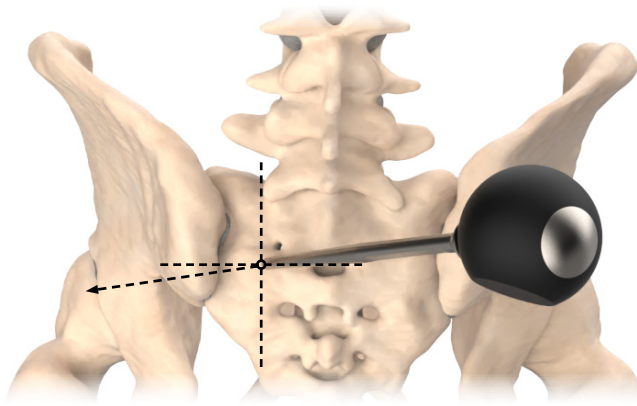

Figure 4.2
1. Use a Pedicle Probe to penetrate the cortex at the starting point, then angle the Pedicle Probe towards the anterior inferior iliac spine (AIIS) (Figure 4.2). Palpating the greater trochanter can be a useful landmark.